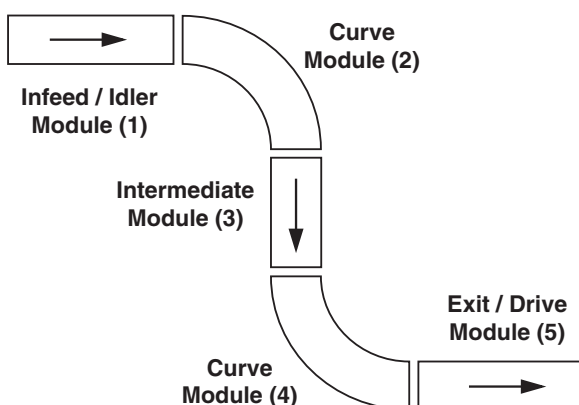

Figure 6
2. Position the frame sections in the correct order (**Figure 6**).